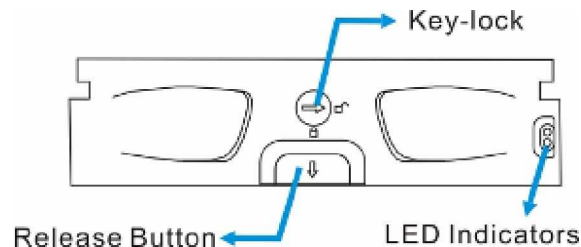

Figure 1-12: Drive Tray Front View
The MAGELLAN subsystem comes with twelve (12) drive trays (see **Figure 1-12**) designed to accommodate separately purchased standard 1-inch pitch, 3.5-inch SAS/SATA disk drives. The drive bays are easily accessible from the front of the enclosure. Two (2) LEDs on the front of the tray indicate the drive status. A key-lock on each drive tray secures the hard drive in place, while a convenient release button ensures fast and efficient drive hot-swapping. Retention screw holes are located on the sides of the drive tray and are reserved for securing hard drives to the tray.